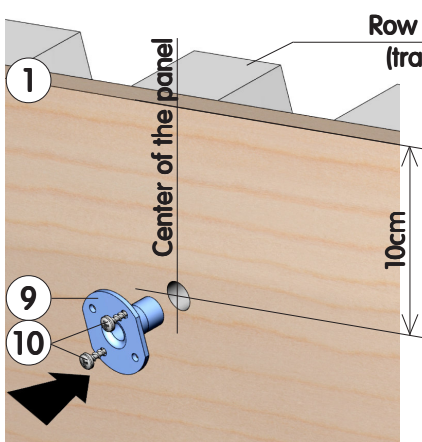
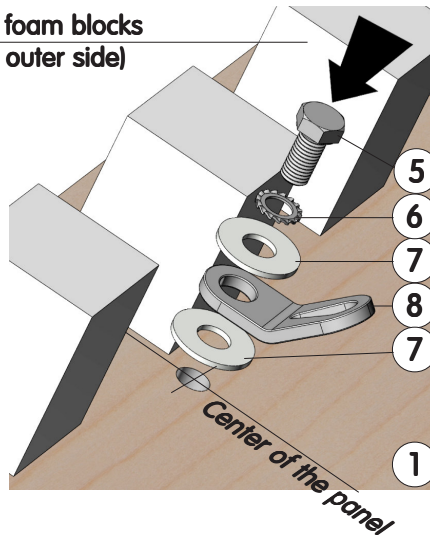

Figure 2
Figure 3
- Install the bracing flat (8) using the fastenings (5), (6) and (7), under each panel as shown in Fig. 2 and Fig. 3, in the direction shown by Fig. 4 and Fig. 5, before tightening to prevent rotation (see Fig. 3).